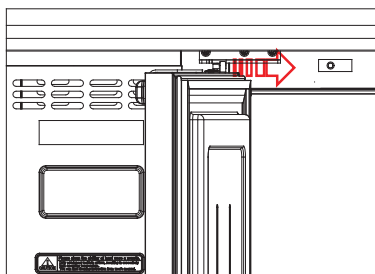

Fig 9-35
3. While applying pressure on the door switch, push it towards the center of the unit or left as indicated. (Fig 9-35)